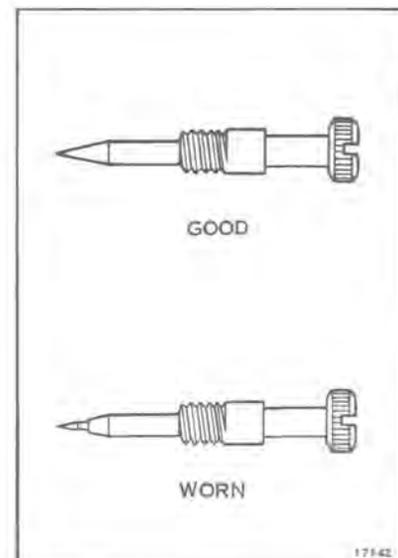

Figure 6-3
- g. Remove and inspect the points of the high speed and low speed (Figure 6-2) needle valves. Through misuse, either mixture screw point may be bent (extruded) from being forced into the casting seat or possibly broken off in the casting (see Figure 6-3). If either mixture screw is damaged, be sure to inspect the casting. If the adjustment seats are damaged, a new body casting is required. Check for clogged inlet and return line screen.